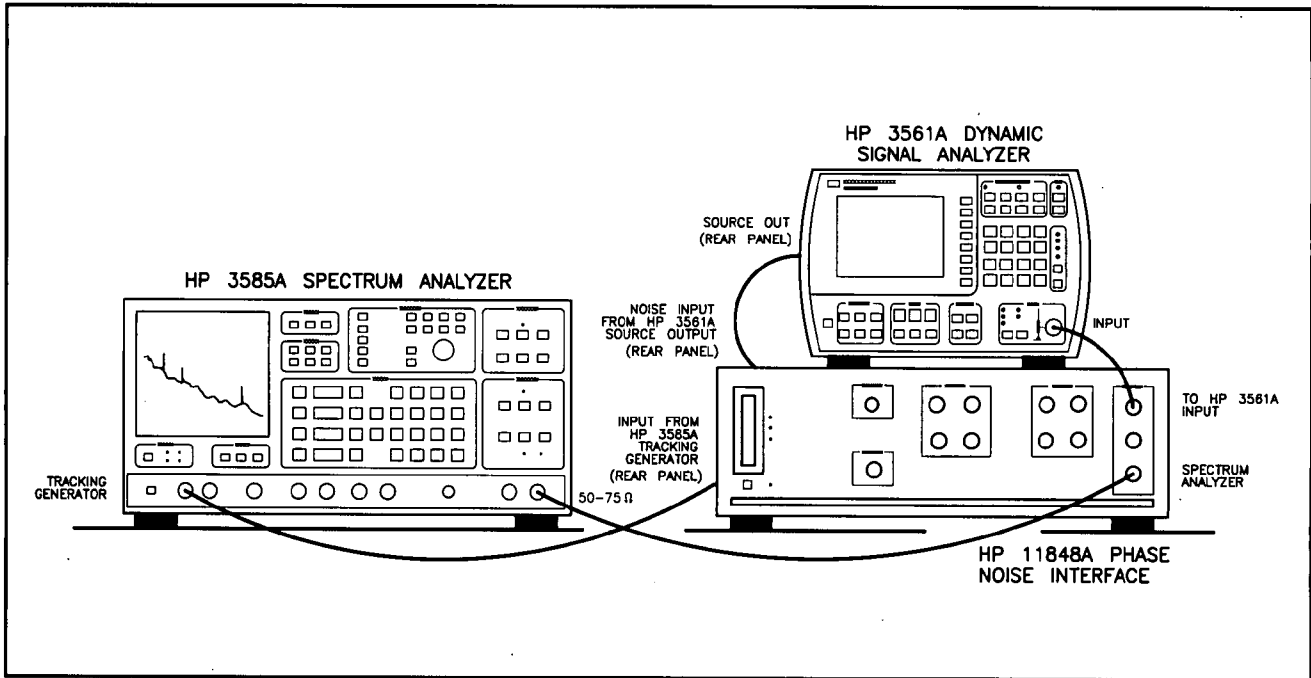

Figure 30. Fourth Option 2 Calibration Setup
14. Make the cable connections as prompted on the display and as shown in part in Figure 30.
15. Press the **Option 2** softkey and continue with the cable connections as show in Figure 30. Also, check that the tracking generator level is maximum.
instructs you to connect the instruments as shown in Figure 30 (the same as in step 15).